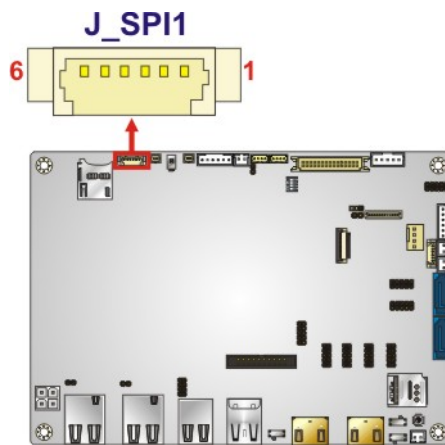

Figure 3-31: SPI Flash Connector Location
- CN Location:** See Figure 3-31